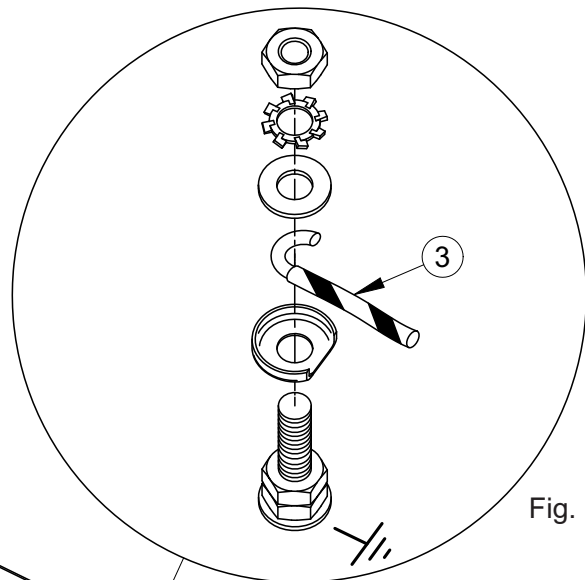

Fig. 23
4. Consolidate the stranded conductor ends by twisting and shape the earth conductor as shown in Fig. 23 (item 3).
5. Remove earth terminal post clamping components and assemble as shown in Fig. 23 ensuring shaped conductor is orientated as shown and all strands of the conductor are clamped between the washers.